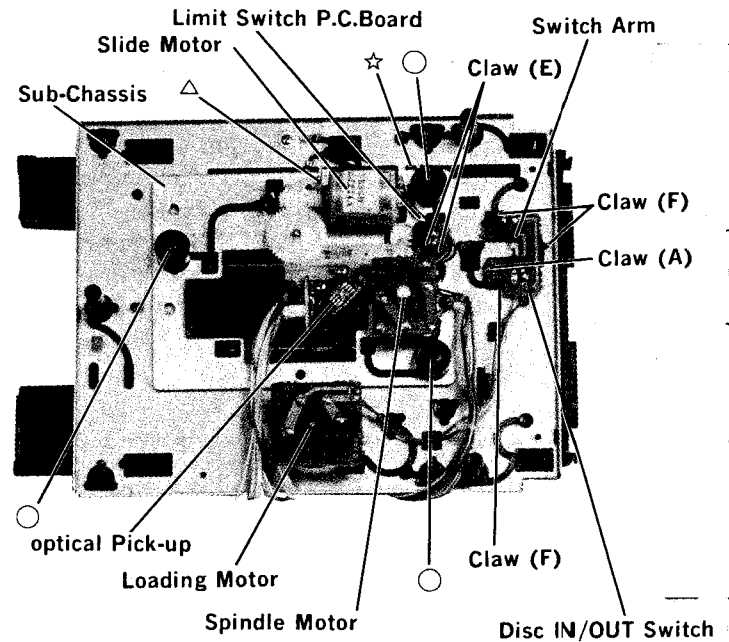

Figure 15 <15図>
- (2) After disengaging one claw (A), remove the switch arm as shown in Figure 15.
- (1) After removing three screws marked "○", remove the sub-chassis as shown in Figure 15.
(1) Remove one screw marked "△" and lift up the motor as shown in Figure 15.
(1) Remove two claws marked "E" as shown in Figure 15.
(1) Remove three claws marked "F" as shown in Figure 15.